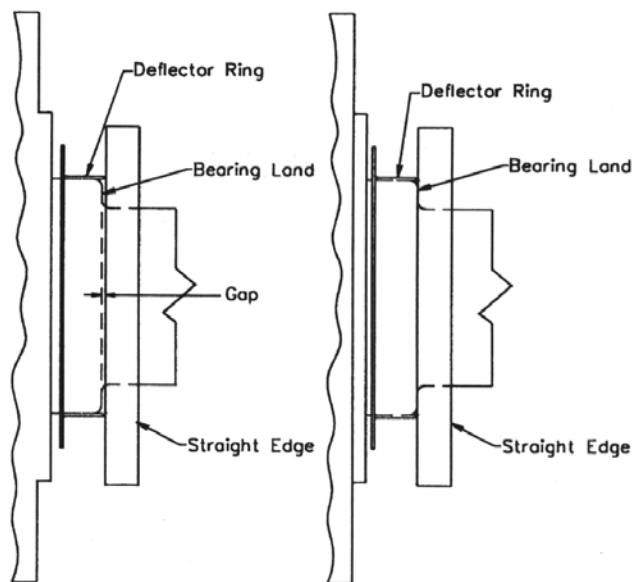

Figure 4 – Deflector Ring Seating
11. Inspect the seating of the deflector ring by placing a straight edge across the deflector ring edge and the spindle bearing land and check that there is not a gap between the straight edge and the bearing land. See Figure 4. The inspection must be completed on at least 4 equidistant locations around the circumference of the bearing land.